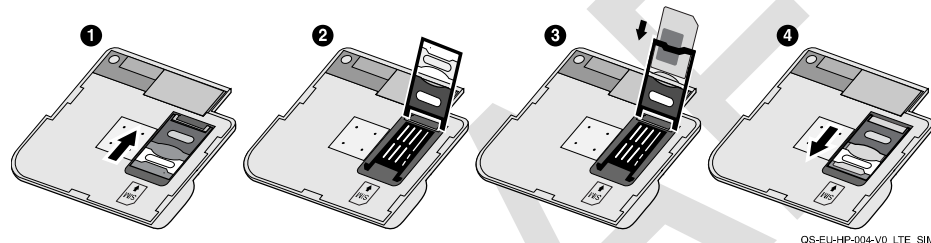

Figure 2 - PROLTES-EU SIM Card Installation
3. Install the SIM in the communication module. Refer to Figure 2.